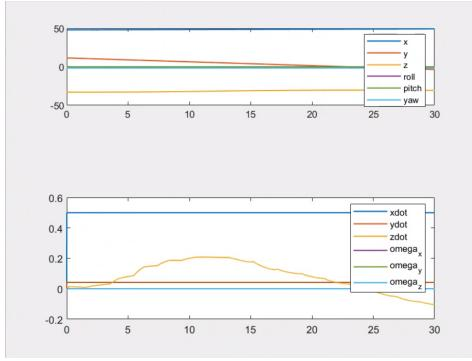

Figure 9: Position and velocities during the Minimum Altitude Vehicle task imposed 1m threshold
- **1 m:** This time the problem is the opposite. The control task is no more active at the starting instant. The UVMS starts to accomplish the Vehicle Position Control task, when the seafloor present an hill the UVMS start to follow the pattern (Figure 9). However, there are some troubles during the navigation because the "noise" of the robot, with only 1 meter of distance (and no  $\Delta$  that could prevent this), could touch the soil because the sensor it's on the center of the vehicle.